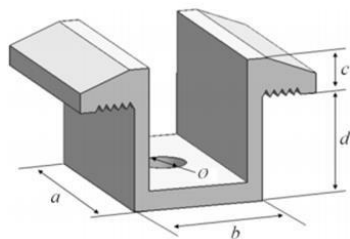
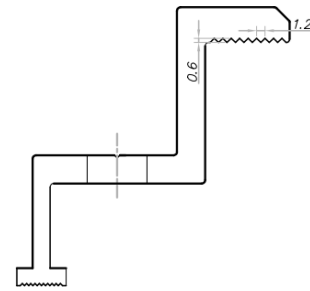
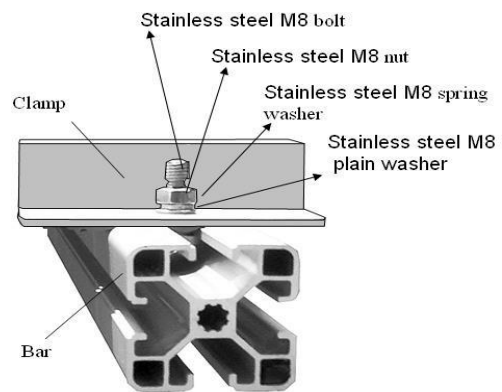

Fig. 10 Schematic diagram of the mid clamp
Fig. 11 Schematic cross section of the fringe clamp
Fig. 12 Schematic diagram of the fringe clamp
- ② Be sure to avoid shadowing effects from the module clamps. Weep holes on the module frame must not be closed or obscured by the clamps. The clamp must have at least 8mm but no more than 11mm overlap with the frame of the module (The clamp section can be changed under the premise of ensuring reliable installation).
- ③ The top surface of the rail contacted with module frame should be equipped with grooves compatible with an M8 bolt.
- ④ If the grooves are not provided, holes of a suitable diameter may need to be drilled to allow bolts attaching to the rail at the same locations as mentioned above.
- ⑤ Ensure that the mounting sequence of each clamp is in the order of flat washer, spring washer and nut.
- ⑥ There are two types of clamps, the mid clamp shown in Fig 10 and the fringe clamp shown in Fig 11 and Fig. 12. The mid clamp has dimensions of  $a \geq 40$  mm,  $b \geq 26$  mm,  $c \geq 5$  mm,  $d \geq 28$  mm,  $\varnothing = 9$  mm. For module of 182mm-wafer, the size of mid and fringe clamp must meet  $a \geq 60$  mm. The tightening torque is suggested to be 17~23Nm for Class 8.8 screw and bolts.
- ⑦ To prevent modules from coming off the fixed device after installation, it is suggested to choose fringe and mid clamps and make contact with the A side of the frame with groove patterns. Suggest to have 9 patterns with a space between 2 adjacent patterns of 1.2mm and a depth of 0.6mm, as shown in figure 11.